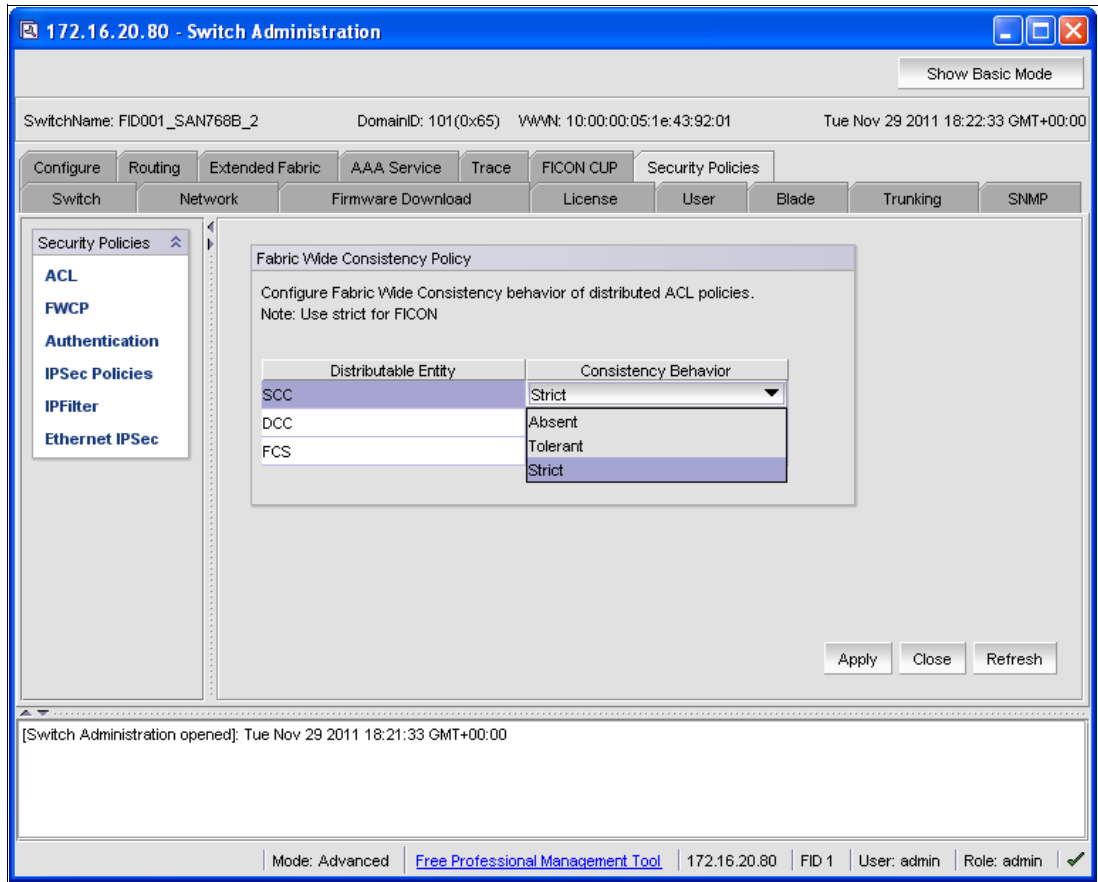

Figure 8-63 SCC Consistency Behavior
5. Select **Strict** at the SCC Consistency Behavior drop-down menu, as shown in Figure 8-63 on page 305.